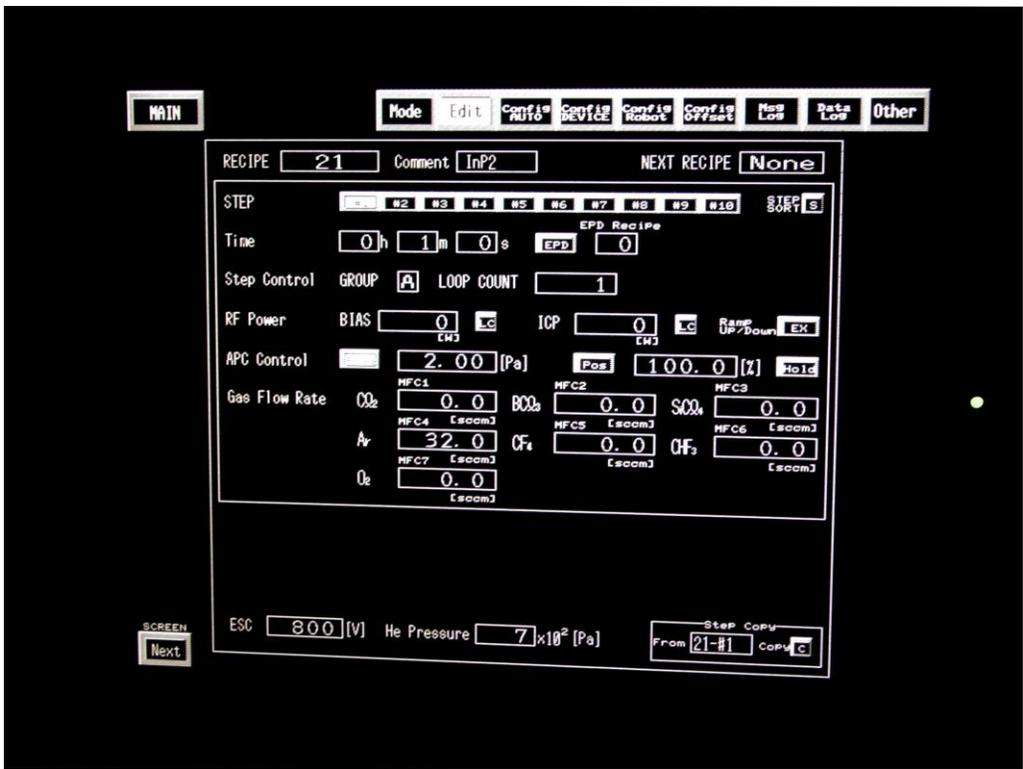

Figure 6. The Set/Edit screen. Users should only modify the “Time” boxes in established recipes.
- The Edit Screen, where the user edits recipes (Fig. 6). Normally, only the step times are modified.
- 1) To edit a recipe, go to the **edit** subscreen in the **set** screen. Press the **recipe** box and select the recipe of interest with the jog dial/set button (Fig. 6).